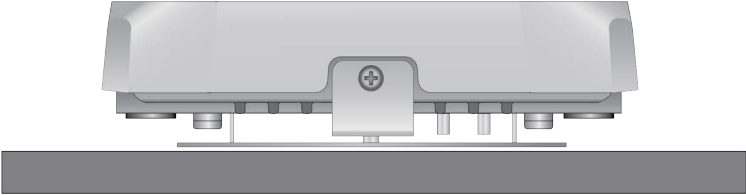

Figure 10. Approved and Unapproved Orientations on a Ceiling, Wall, or Table
- ❑ Refer to Figure 10 on page 26 for approved and unapproved orientations of the wireless access point on a table, wall, or ceiling.
1. Choose the location and orientation for the access point on the wall or ceiling. Refer to Figure 10 on page 26.